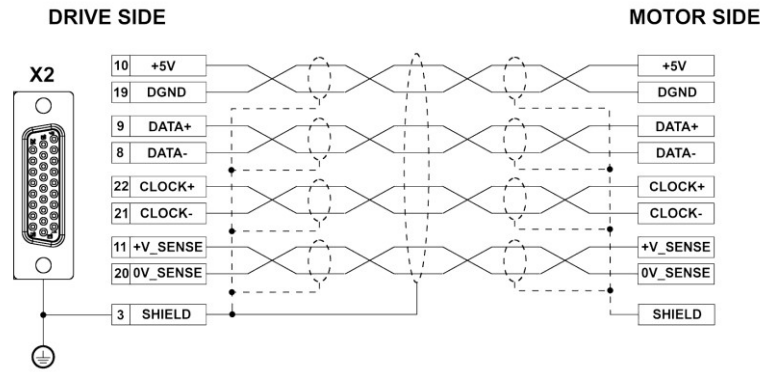

FIG. 30- X2 collegamenti Endat 2.1-2.2-BissB-BissC / X2 Endat 2.1-2.2-BissB-BissC
**FIG. 30** mostra il pinout per connettere un EnDat full digital 2.1 / 2.2.
**FIG. 30** shows an Endat 2.1/2.2 connection (full digital).